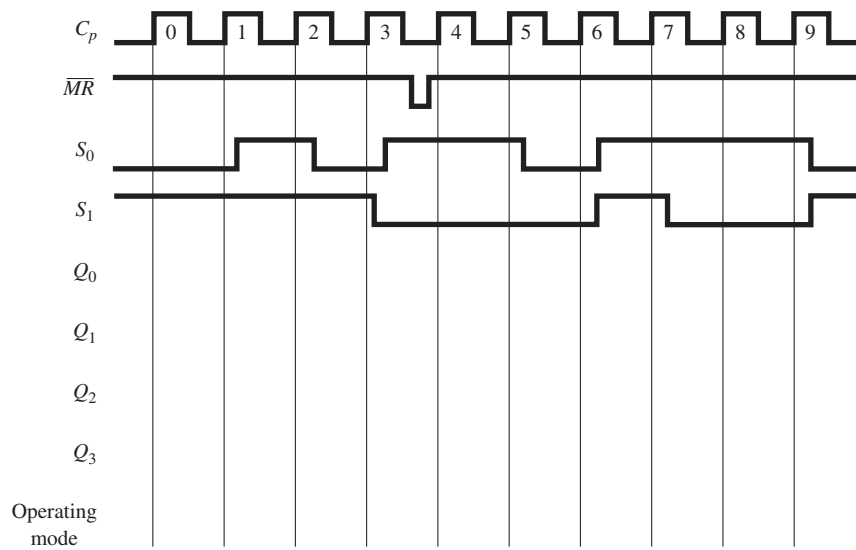

Figure P19
19. Repeat Problem 18 for the input waveforms shown in Figure P19.